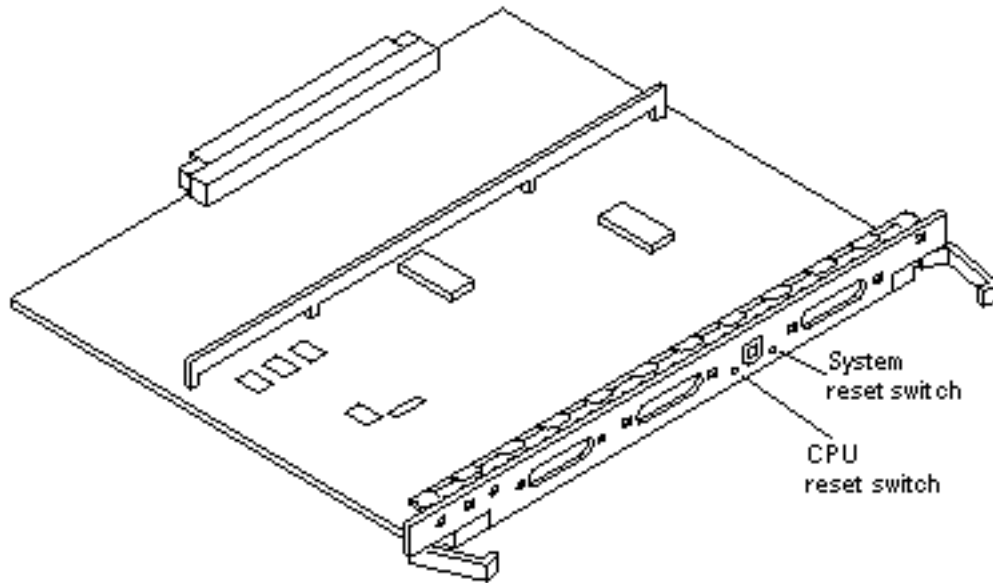

Figure 3-3 CPU Reset Switch on Clock+ Board
**7. To restart firmware, or if the system hangs, press the CPU reset switch on the clock+ board. See Figure 3-3.**